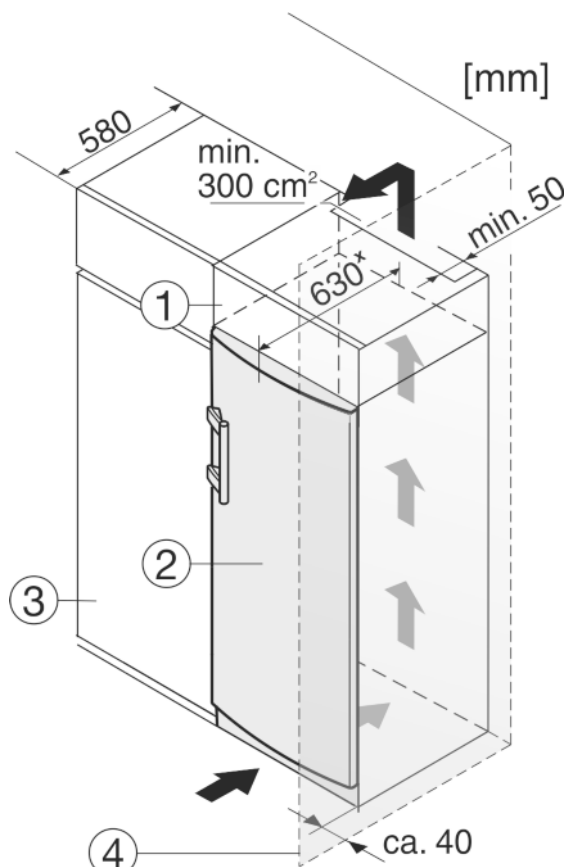

Fig. 8
- (1) Stack cabinet
- (2) Appliance
- (3) Kitchen cabinet
- (4) Wall
The appliance can be built into kitchen units. A top cupboard *Fig. 8 (2)* can be added above the appliance in order to bring the appliance *Fig. 8 (1)* up to the height of the fitted kitchen units.
When installing with kitchen units (max. depth 580 mm), the appliance can be positioned directly next to the kitchen cabinet *Fig. 8 (3)*. The appliance will project by 34 mm* at the sides and 50 mm* in the centre of the appliance in relation to the kitchen cabinet front.
If the appliance is installed with the hinges next to a wall *Fig. 8 (4)*, the distance between appliance and wall has to be at least 40 mm. This corresponds to the projection of the handle when the door is open.